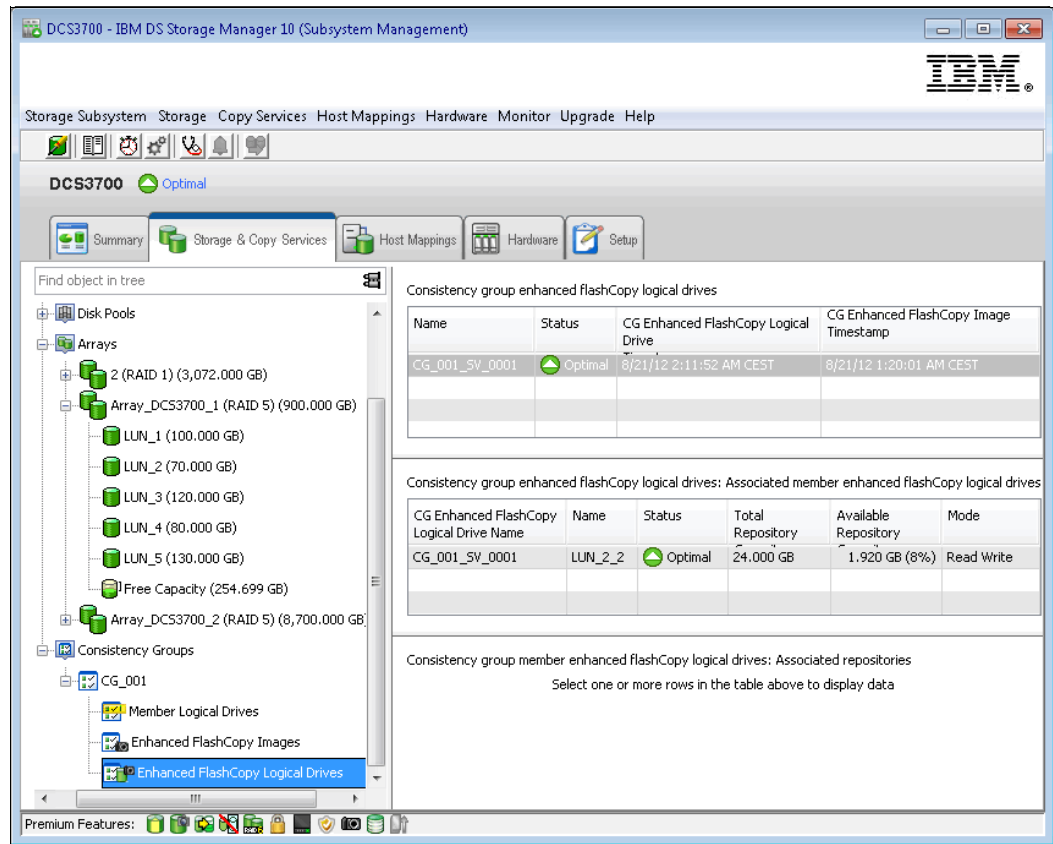

Figure 8-72 Enhanced FlashCopy Logical Drive
- In the Logical pane of Storage Manager, click **Enhanced FlashCopy Logical Drive**, and in the Properties pane, you see information about the Enhanced FlashCopy logical drive (Figure 8-72).